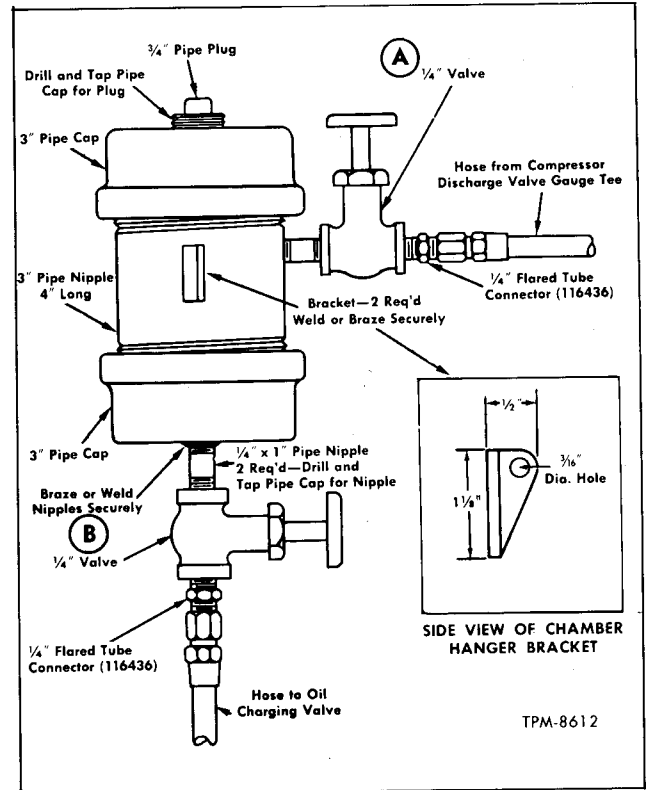

Figure 81—Fabricated Chamber for Adding Oil to Compressor
Figure 81 illustrates a chamber which can be fabricated locally using readily available parts. It is easy to visualize many other methods of constructing such a chamber, however, the general principles of the one shown in figure 81 should be followed.
1. Close both valves ("A" and "B," fig. 81) on oil chamber.
3. Backseat compressor discharge valve, then connect a hose of sufficient length from upper valve ("A," fig. 81) of oil chamber to test gauge fitting at top of compressor discharge valve. Connect another hose from lower valve ("B," fig. 81) of oil chamber to oil charging valve at top of compressor.